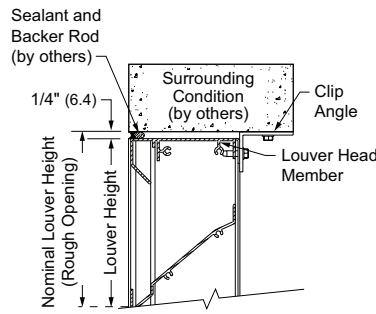

Fig. 2.2 Head
2. Place the louver section into the opening. See fig. 2.2, 2.3, 2.4 and 2.5.